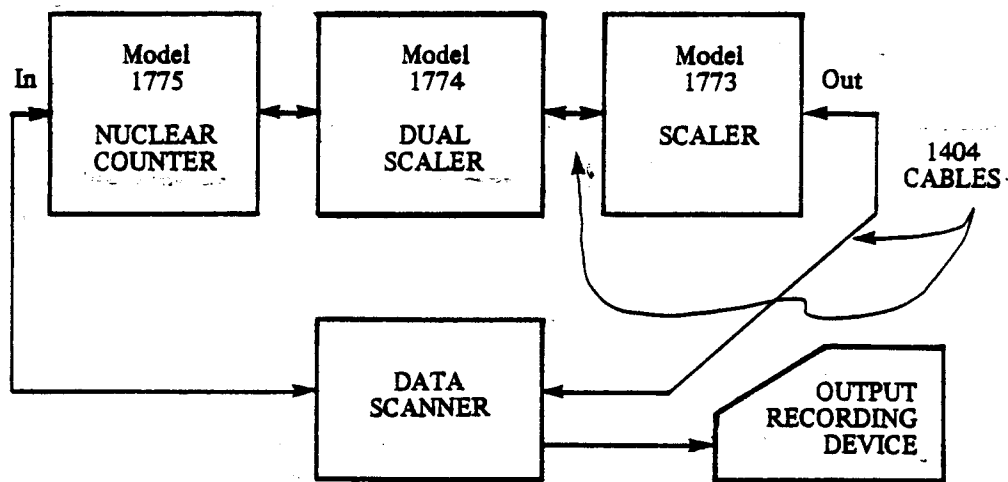

Figure 4-2. Interconnection of Modules for Printing System Operation
All Canberra printing system modules are interconnected by a closed loop "daisy chain" of Model 1404 System Print/Control cables as illustrated in Figure 4-2. Except for the Print Clock line, all control and data lines are directly wired from the CONTROL INPUT to CONTROL OUTPUT connectors on the rear panel of each printing module. A common data/control bus is thus formed, with system commands presented in parallel to all units in the system.
The desired printing sequence is a function of module position in the closed loop system. In Figure 4-2, the Model 1775 will be printed out first, the Model 1774 second, and the Model 1773 last.
Refer to Figure 4-2 for the following typical printing system operation. In this system both the Model 1775 and Data Scanner function in the master roles, with the Model 1774 and Model 1773 being system slaves.
5. The following sequence of events will help explain what happens during the printout cycle for the counting system in Figure 4-2.